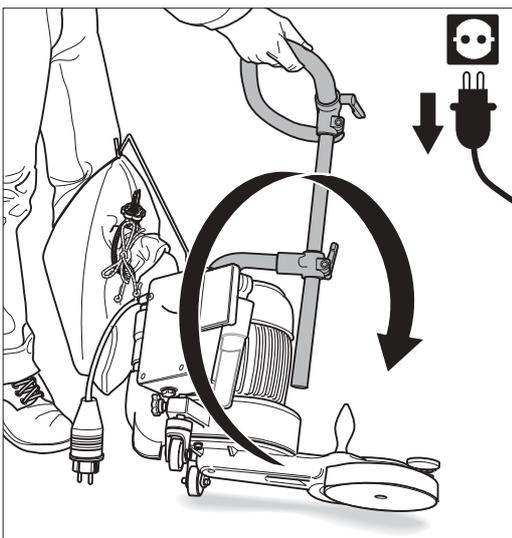

Fig. 54: Tilt the UNICO over to the left-hand side and set it down carefully.
- 3 Place the UNICO on its side by grabbing the machine by the handlebar on the right-hand side and then tilt the machine over to the **left-hand** side (Fig. 54) and set it down carefully.